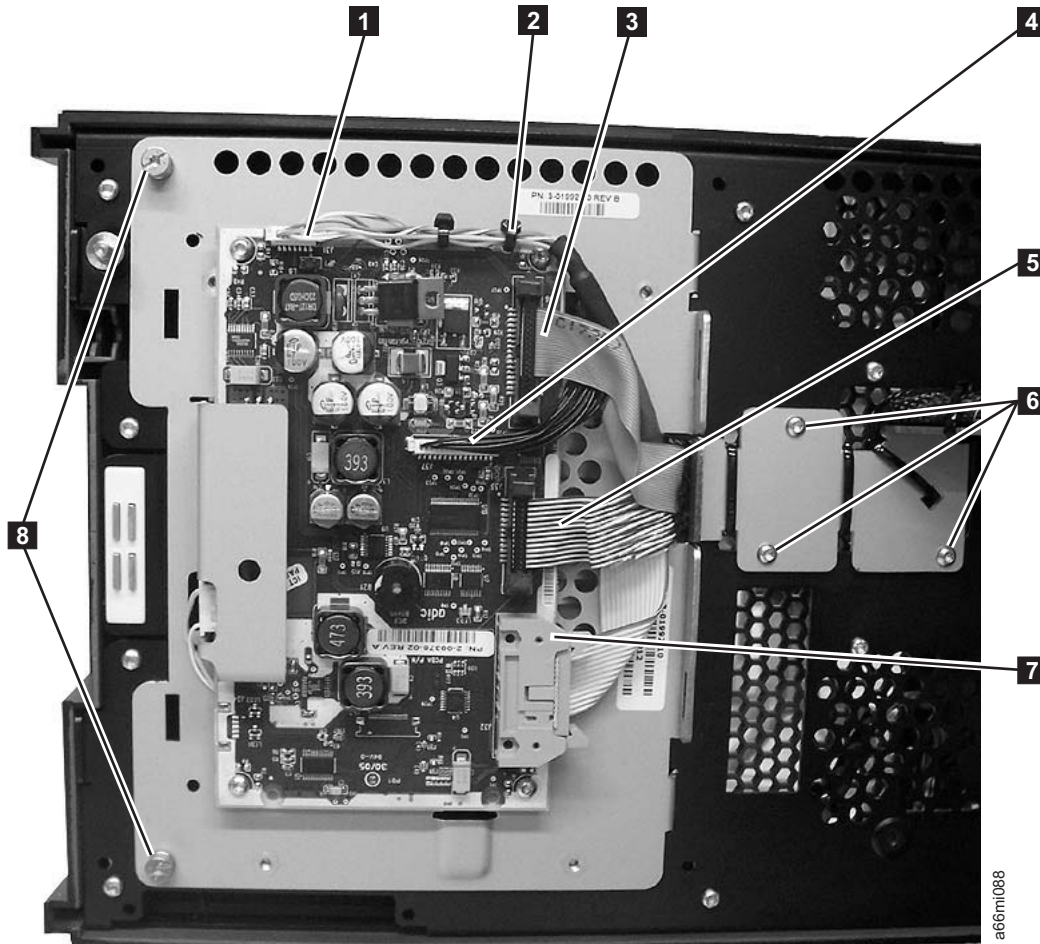

Figure 7-9. Operator panel connectors
1. Visually check, and reseat if necessary, all of the connectors on the back of the operator panel. See **1**, **3**, **4**, **5**, and **7** in Figure 7-9.